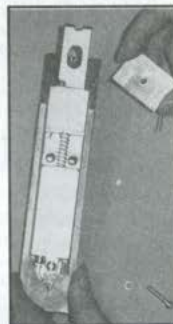

Fig. 4e
2. Remove both pieces of the back plate by removing 2 screws. (See fig. 4e)